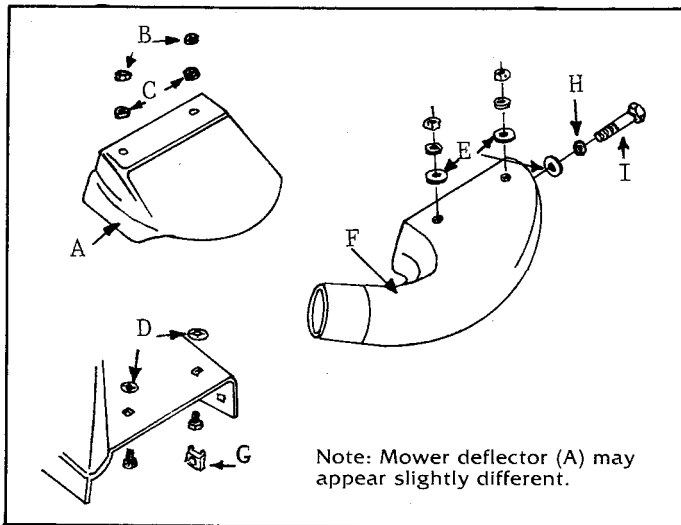

Figure 1a - 36" Adapter
1. To remove the mower deflector, remove the nuts and lockwashers (items B and C, Fig. 1A) which hold it in place. These will be used again.